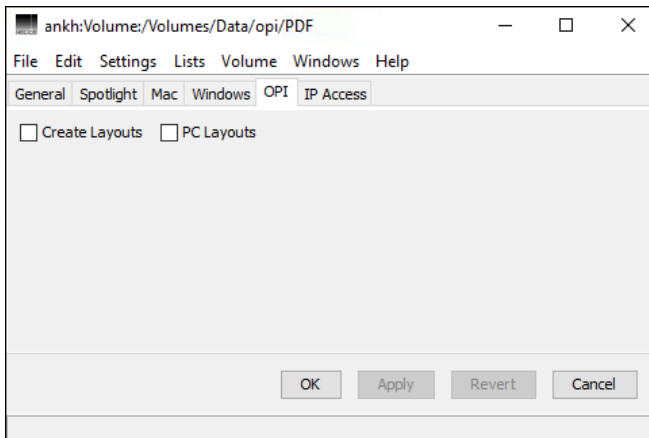

Fig. 4.5: Defining volume-dependent OPI settings
- In HELIOS Admin open the `Volumes` tab and highlight the volume you wish to configure. Then open the volume settings and select the `OPI` tab (Fig. 4.5).
File characteristics are slightly different on Mac and Windows computers. Switch `PC Layouts` on if you want OPI to always generate PC-compatible layouts – even if the original high-resolution images are coming from a Mac computer; OPI generates layout files always according to the `PC Layouts` checkbox in the HELIOS Admin volume settings (Fig. 4.5).